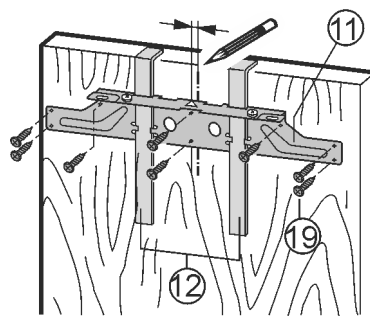

Fig. 30
- Align the crosspiece Fig. 30 (11) to the middle of the door.
- Left strip: Move the crosspiece Fig. 30 (11) 6 mm (0.24 in) to the left.
- Right strip: Move the crosspiece Fig. 30 (11) 6 mm (0.24 in) to the right.